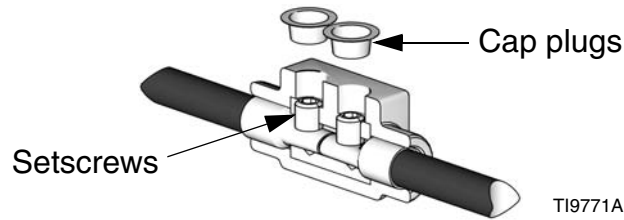

FIG. 11
NOTE: When torqued to 60 in-lbs (6.78 N•m) setscrews will be approximately flush with connector. See FIG. 11.
- f. Insert cap plugs over setscrews. See FIG. 11.